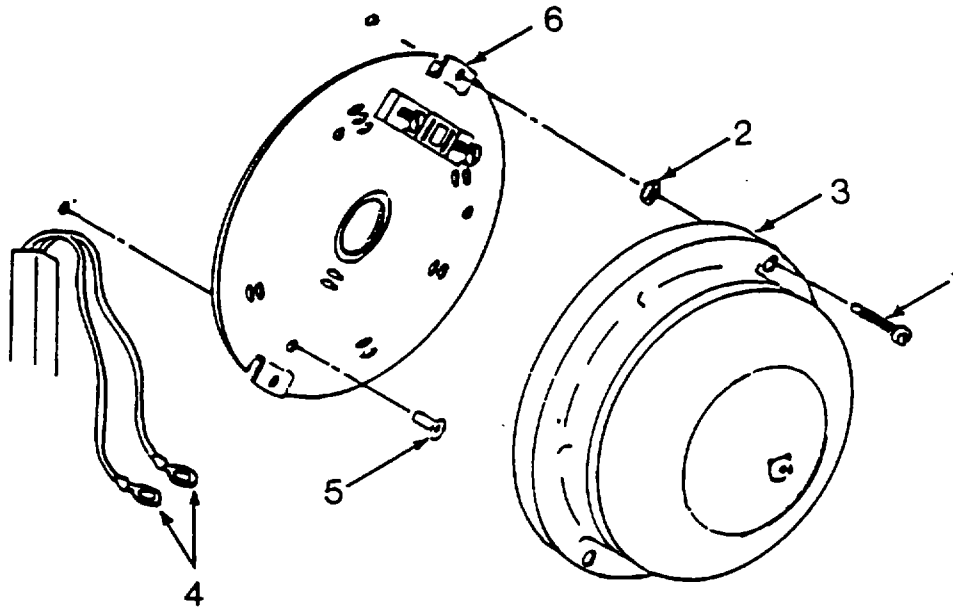

Figure 4-20. Blackout Warning Assembly Buzzer
- (f) Remove screws (12), lockwashers (13), and flat washers (14).
- (g) Remove housing (15).
- (h) Position switch housing (15) of push button switch on shelter and secure with screws (12), lockwashers (13), and flat washers (14). Seal to shelter wall with RTV sealant (2, Appendix E).
- (i) Secure switch (11) to housing (15) with screw (10).
- (j) Connect electrical wires (9), secure with nuts (7) and lockwashers (8), and remove tags.
- (k) Position switch cover (5) and gasket (6) on housing and secure with screws (1), flat washers (3), lockwashers (2), and nuts (4).
- (2) Warning Buzzer.
- (a) Remove warning buzzer screws (1, Figure 4-20) and lockwashers (2).
- (b) Remove buzzer (3).
- (c) Tag and disconnect electrical wires (4).
- (d) Remove rivets (5) by drilling or chiseling off heads.
- (e) Remove buzzer base (6).
- (f) Position buzzer base (6) of warning buzzer on wall and secure with rivets (5).
- (g) Connect electrical wires (4) to terminals and remove tags.
- (h) Position buzzer (3) on base and secure with screws (1) and lockwashers (2).